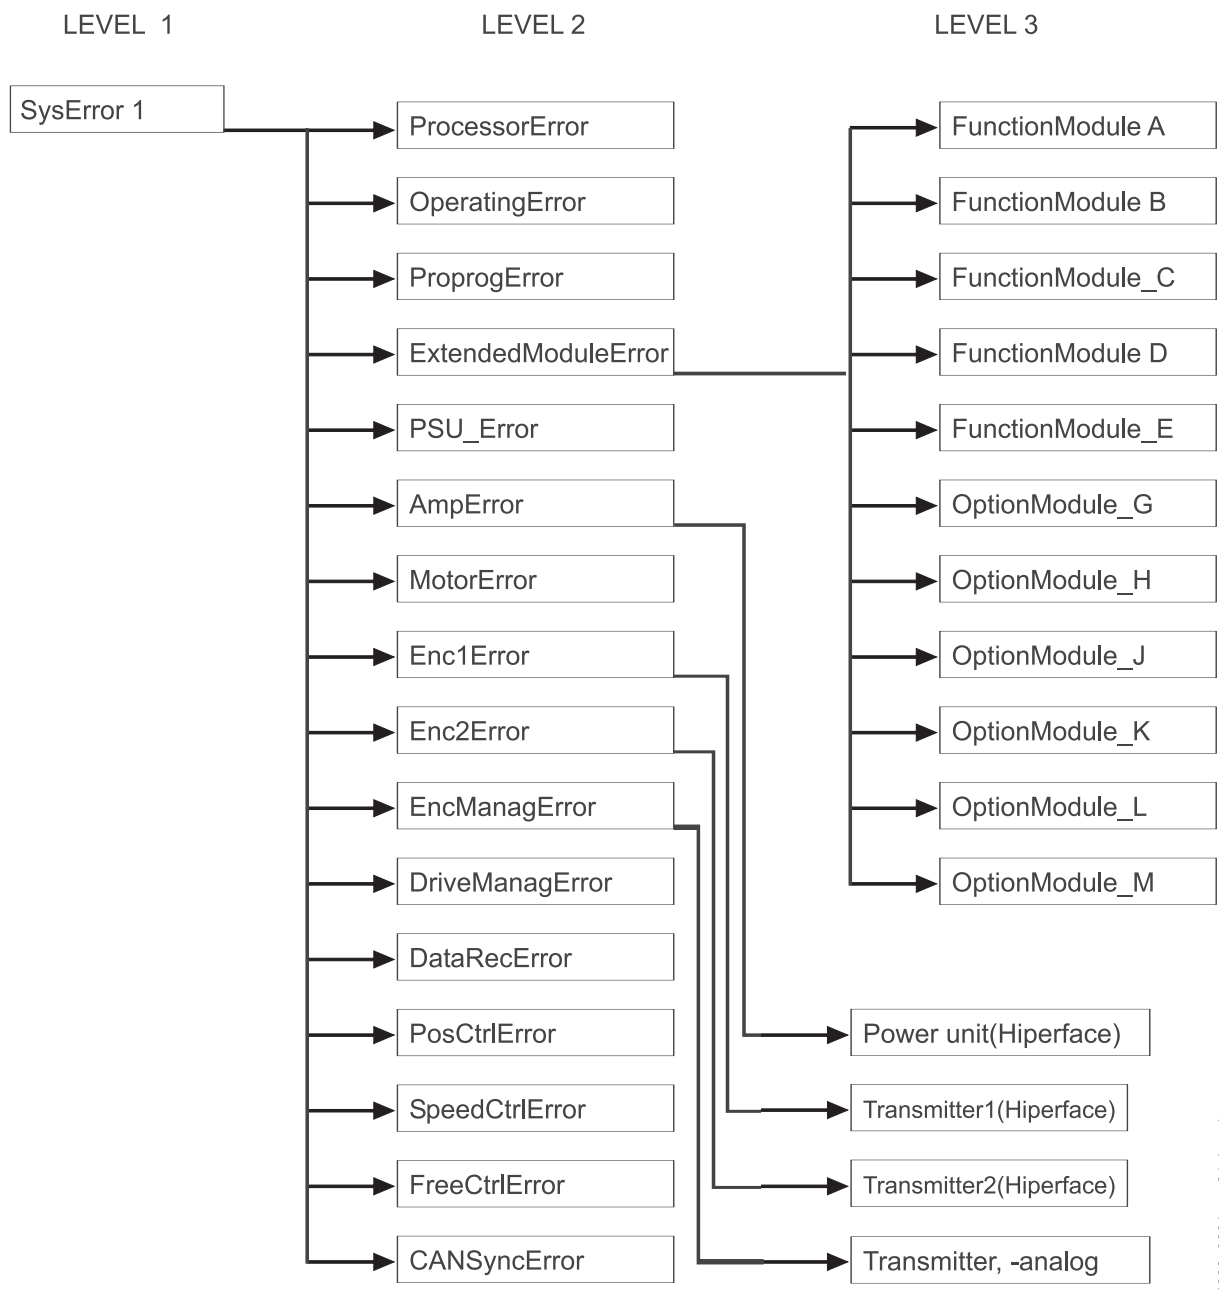

Figure 11: Structure of the List of Errors - overview
- 7 Click on the + -symbol before „Configuration_IO_analog“ in the window „Parameter-list“. You can now access the desired parameters of the analog-I/O module (see ►Fig 11◄).